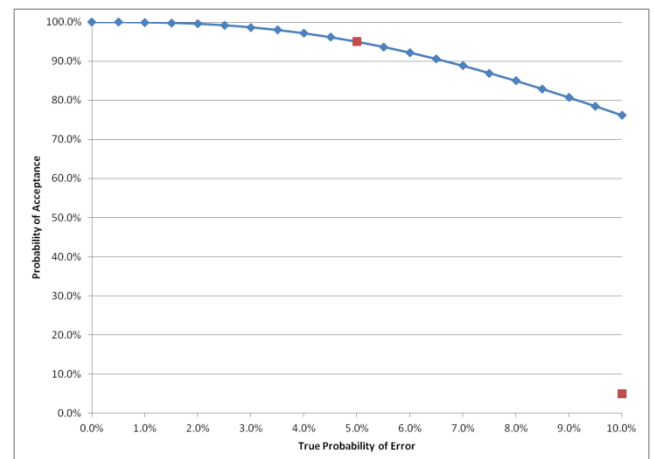

Figure 1 - OC Curve for n=17, k=2
The selected desired maximum failure rate, $p=5\%$, is called the Acceptable Quality Limit (AQL). There are, in fact, an infinite number of solutions to this equation. For example, $n=1$ and $k=0$ or $n=17$ and $k=2$ will both satisfy this equation, providing 95% confidence that we will pass the test if the true underlying failure rate is 5% or less. For each combination of n and k an Operating Characteristic (OC) Curve illustrates the probability of passing the test, given the true underlying probability of call failure. Figure 1 illustrates this for the example in which $n=17$ and $k=2$.